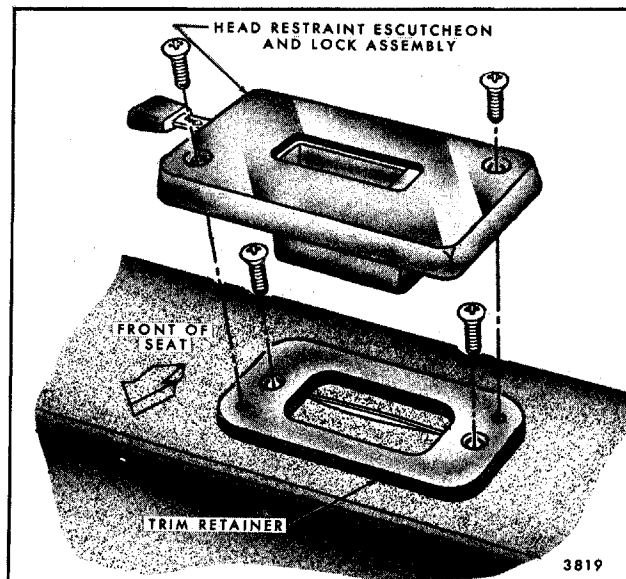

Fig. 9-30-Front Seat Back Head Restraint Retainer, Lock and Escutcheon - "A, E and X" Styles
- Remove lock and escutcheon assembly attaching screws and remove lock and escutcheon (Fig. 9-30).